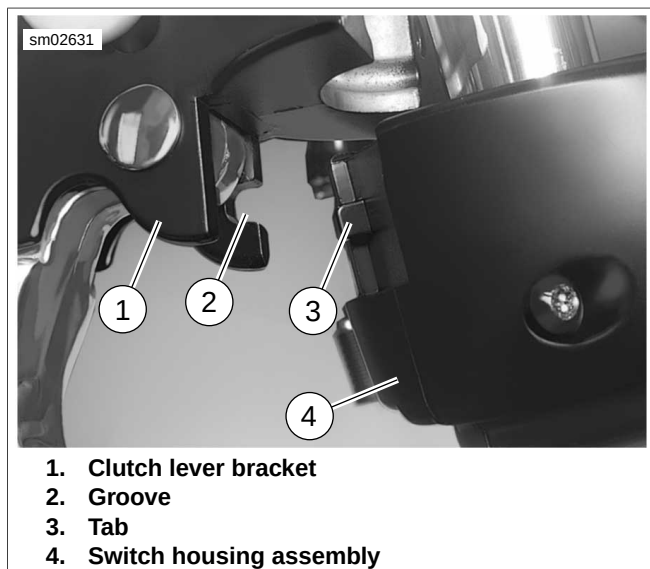

Figure 6-157. Clutch Lever Bracket
5. See Figure 6-157. Position the clutch hand lever assembly inboard of the switch housing assembly, engaging the tab